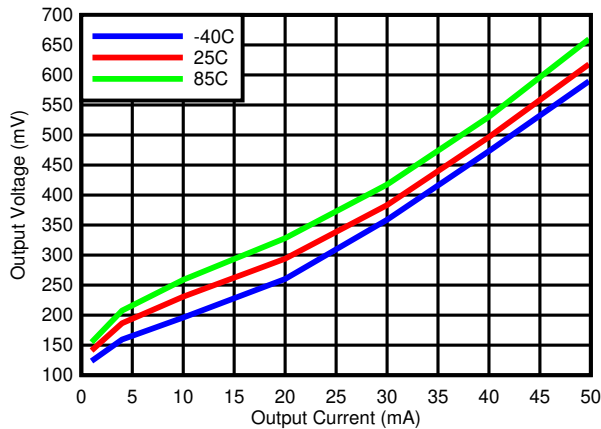
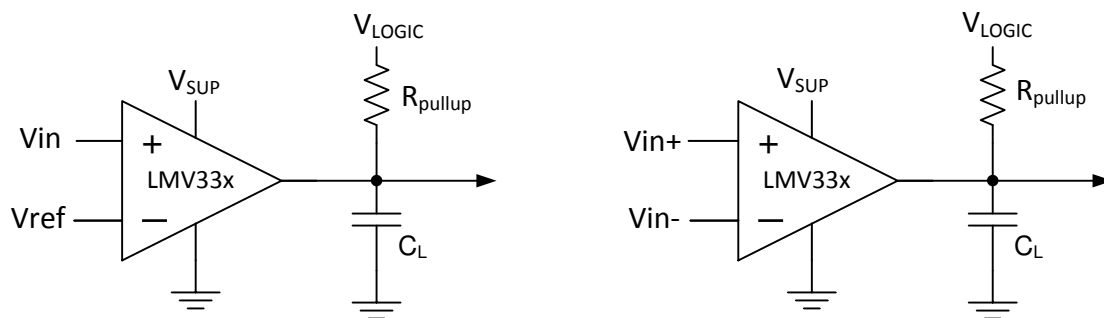

Figure 6-3. Output Voltage vs Output Current
Figure 8-1. Typical Application Schematic
The output consists of an open drain NPN (pull-down or low side) transistor. The output NPN will sink current when the positive input voltage is higher than the negative input voltage and the offset voltage. The V_{OL} is resistive and will scale with the output current. Please see Figure 6-3 for V_{OL} values with respect to the output current.
Output current is determined by the pull-up resistance (R_{pullup}) and V_{logic} voltage, refer to Figure 8-1. The output current will produce a output low voltage (V_{OL}) from the comparator. In which V_{OL} is proportional to the output current. Use Figure 6-3 to determine V_{OL} based on the output current.
- R_{CE} can be determine by taking the slope of Figure 6-3 in it's linear region at the desired temperature, or by dividing the V_{OL} by I_{out}